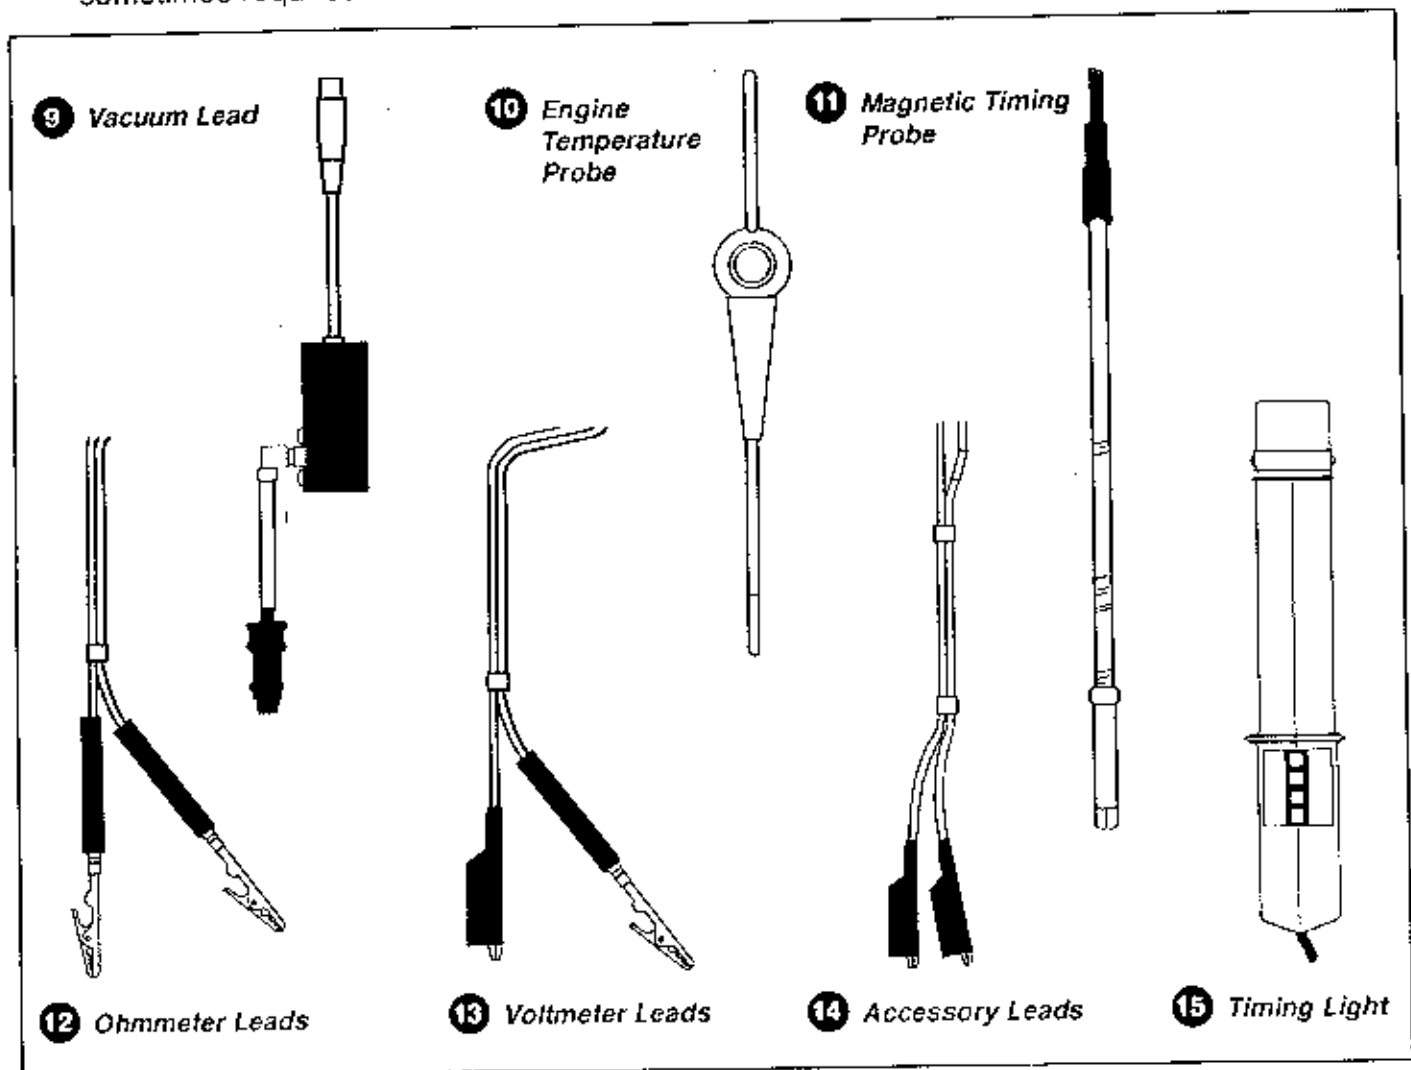

Figure 9
9. Vacuum Lead (see Figure 9) to manifold vacuum source.
10. Engine Temperature Probe (see Figure 9): To measure engine temperature, secure probe to upper radiator hose with velcro strap included with analyzer.
11. Magnetic Timing Probe (see Figure 9) replaces timing light in providing ignition timing information. (Magnetic timing offset must be entered through Set-Up or Specs). Insert into vehicle's magnetic timing receptacle, if vehicle has one. Adapter sometimes required.
12. Ohmmeter Leads (see Figure 9) used with multimeter.
13. Voltmeter Leads (see Figure 9) used with multimeter.
14. Accessory Leads (see Figure 9) used for module test.
15. Timing Light (see Figure 9) operates when the yellow pickup and green #1 pickup are connected and the timing test screen is displayed and engine is running.